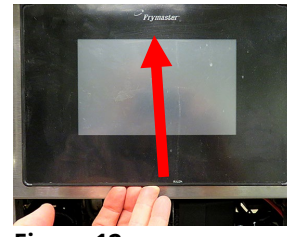

Figure 12
5. Slide the controller up to disengage it from the bottom of the bezel (see Figure 12).